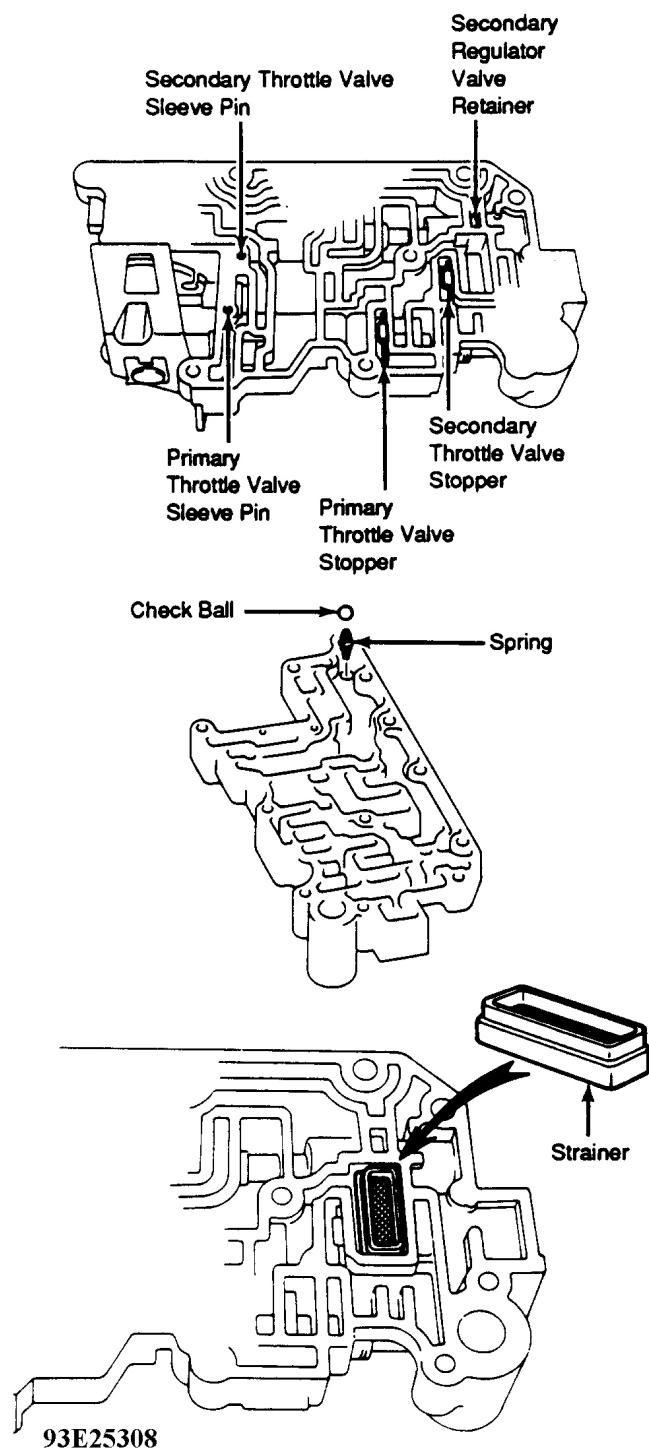

Fig. 41: Front Upper Valve Body Pin, Retainer, Check Ball & Strainer
1. Coat all components with ATF. To reassemble, reverse disassembly procedure. Check that all valves slide freely in bores. Ensure retainers, valve stopper, check ball, and pin are installed in correct location. See **Fig. 41**.
4. Install secondary regulator valve. Install check ball and spring. See **Fig. 41** . Install strainer.